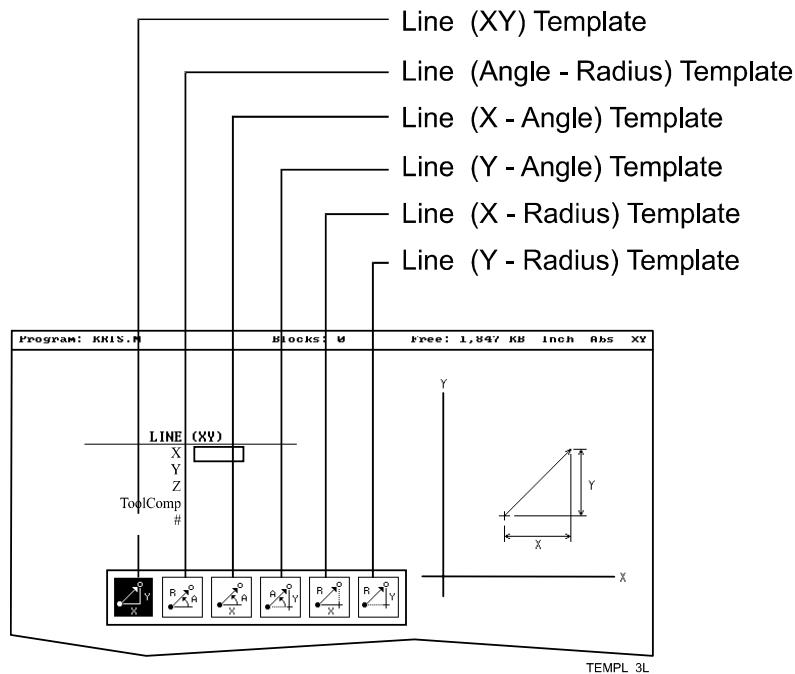

Figure 3-10, Rapid/Line Template Pop-up Menu
2. Press **More... (F4)** to display the Template pop-up menu. Refer to **Figure 3-10**.